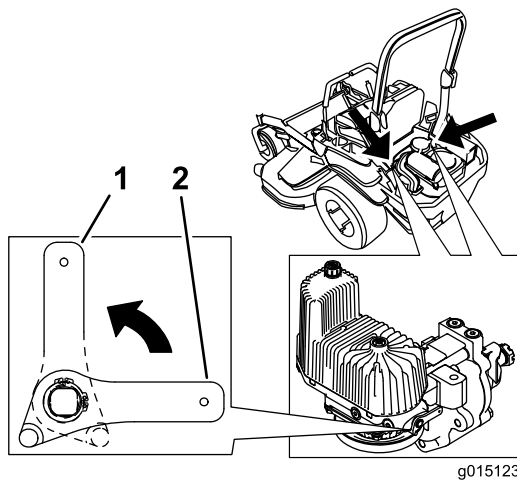

Figure 36
2. Rotate the release valve levers vertically to push the machine. This allows hydraulic oil to by-pass the pump enabling the wheels to turn (Figure 36).
4. Rotate the release valve levers horizontally to run the machine (Figure 36).